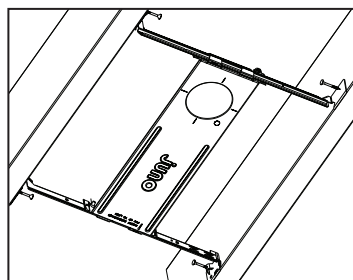
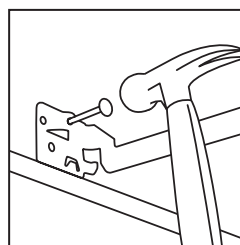

Figure 7
Figure 8
Step 1. Extend bar hangers to fit between joists. Bar hanger foot is contoured to easily align with bottom of joist (Fig. 7). Position fixture by hammering Real-Nails® into joists (Fig. 8).